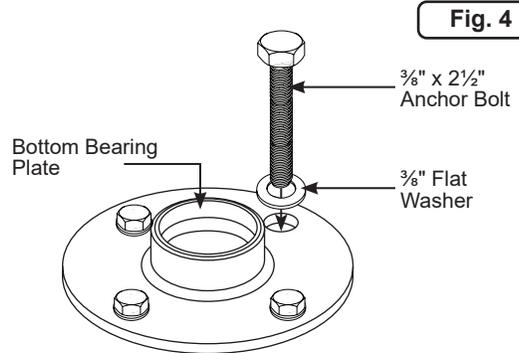

Fig. 4
5. Place the bottom bearing plate back over the anchor holes and anchor it with four (4)  $\frac{3}{8}$ " x 2 $\frac{1}{2}$ " anchor bolts and flat washers (Figure 4).